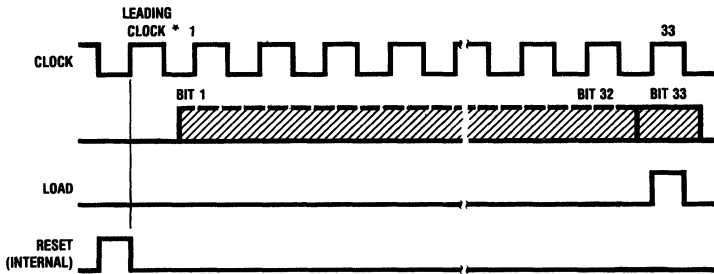

FIGURE 4. Input Data Format
*Figure 4* shows the input data format. Bit "1" is the first bit into the data input pin and it will appear on pin 17. A logical "1" at the input will turn on the appropriate LED. The load signal latches the 33 bits of the shift register into the latches. The data out pin allows for cascading the shift registers for more than 33 output drivers.